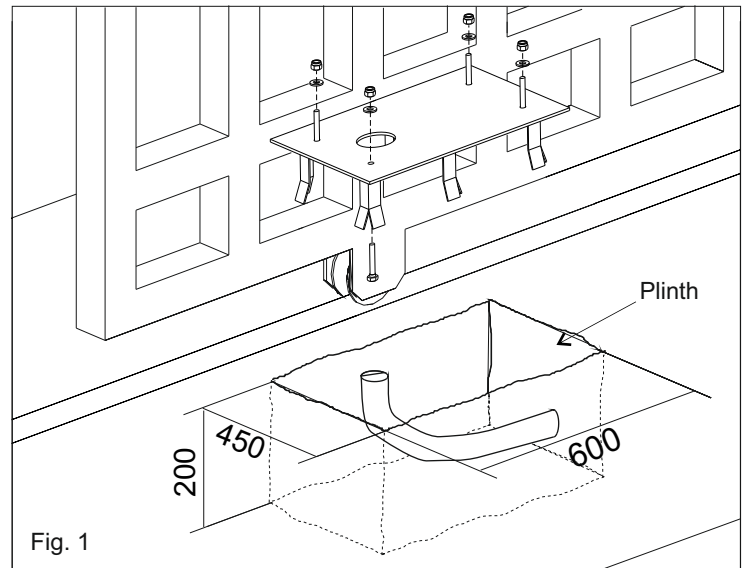

Fig. 1
**2.1.** Have a mounting plate manufactured to the dimensions shown in Fig. 1. The plate will require to have concrete holding into which the foundation plate.
**Note:** It is best if the gate structure allows the plate to be raised up from the finished level by 50 mm (Fig. 1). This will stop water gathering around the operator.